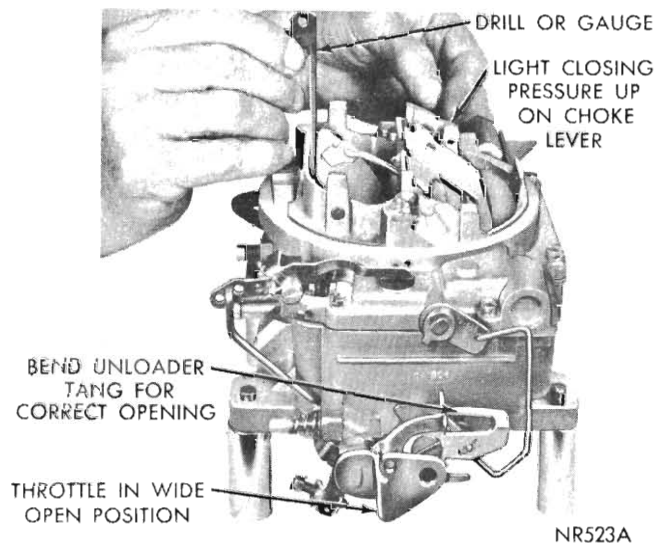

Fig. 13—Checking Choke Unloader (Wide Open Kick)
(1) Hold throttle valves in wide open position. Insert specified drill (refer to Specifications Choke Unloader) between upper edge of choke valve and inner wall of air horn (Fig. 13).
(2) With a finger lightly pressing against choke lever, a slight drag should be felt as drill is being withdrawn. If an adjustment is necessary, bend unloader tang on fast idle cam until correct opening has been obtained (Fig. 13).